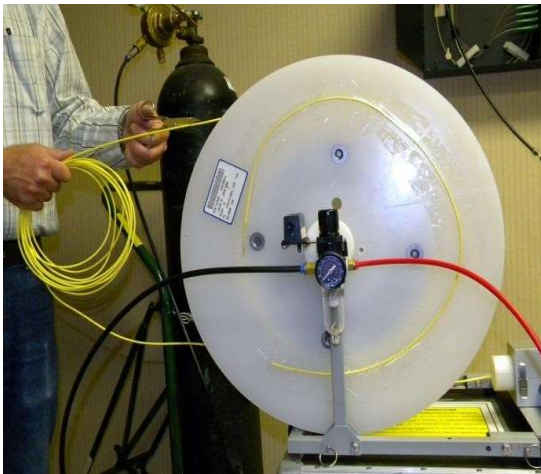

Figure 8
11.3 Carefully manually pay off recommended 10'- 15' of fiber bundle length from the reel for fiber termination purposes; more or less length if required / desired. When enough length is available, cut fiber bundle from reel. **See Fig. 8.**